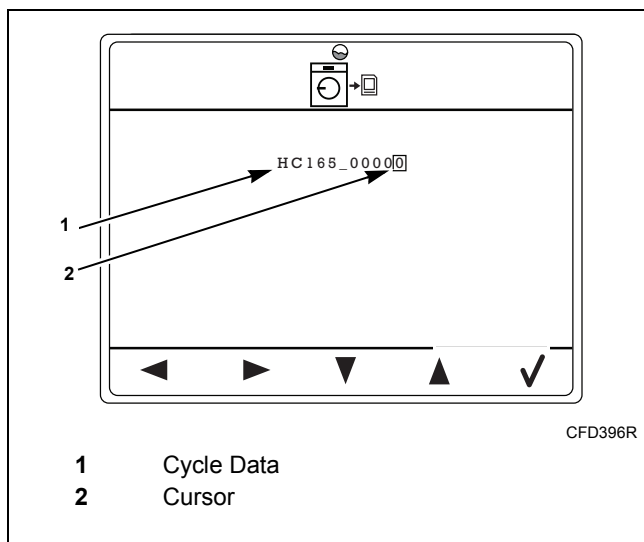

Figure 47
The cycle data is displayed as shown. Refer to *Figure 47*. If necessary, the name of the file can be changed.
1. Move the cursor using the keypads below the Left/Right icons to select a letter or figure or to add a letter or figure. Refer to *Figure 47*.
2. Change the letters and figures using the keypads below the Up/Down icons. Refer to *Figure 47*.
3. Press the keypad below the Check icon to write the data to the data card. Refer to *Figure 47*.